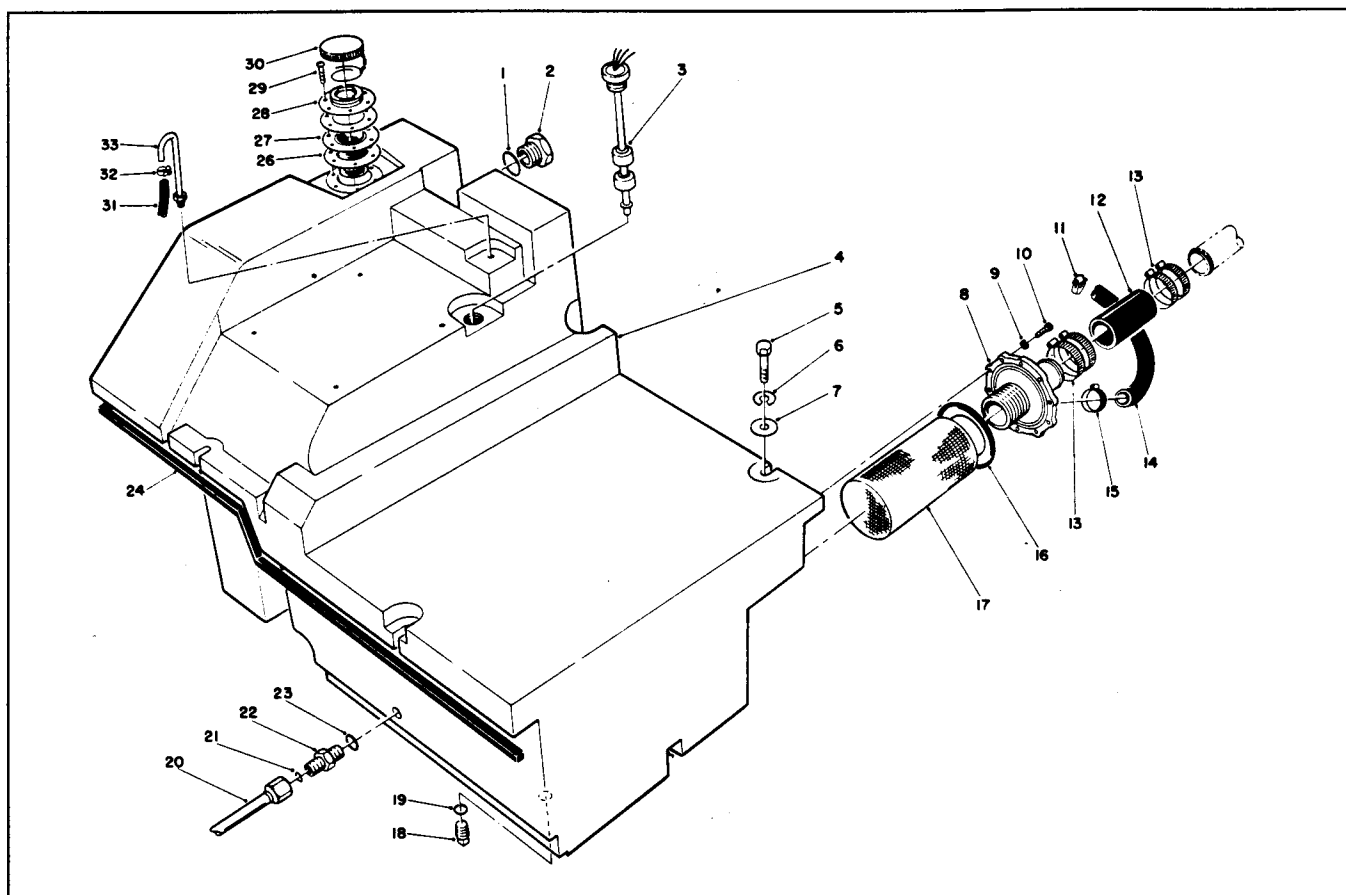

Figure 54
1. Clean filler screen, suction screen and reservoir with clean solvent (Fig. 54).